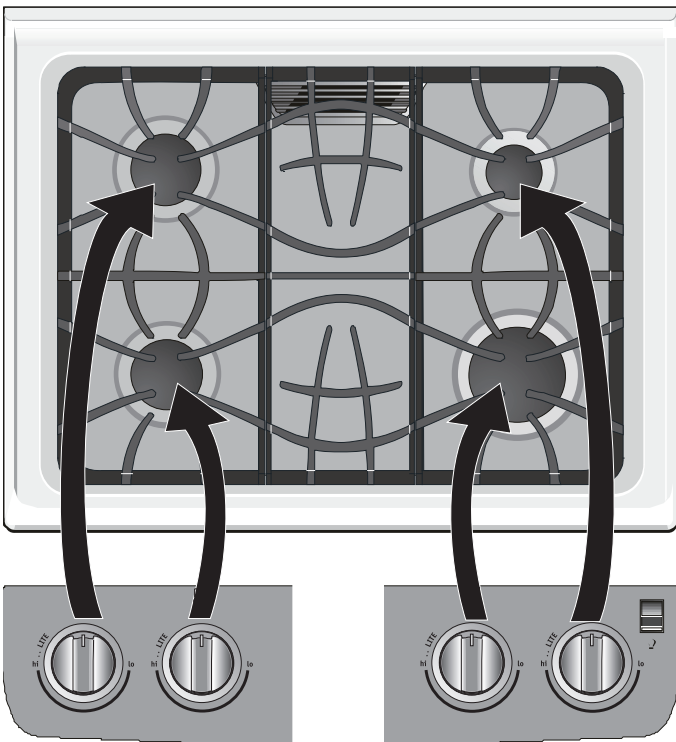

Figure 1: Burner locations
The small simmer burner is best used for simmering delicate sauces, etc. This burner is located at the right rear burner position on the cooktop (see Figure 1). The standard burner can be used for most surface cooking needs. The standard burners are located at the left front and left rear positions on the cooktop.
3. Release the knob and rotate to the LITE position (see figures 1 & 2). Note: All four electronic surface igniters will spark at the same time. However, only the burner you are turning on will ignite.